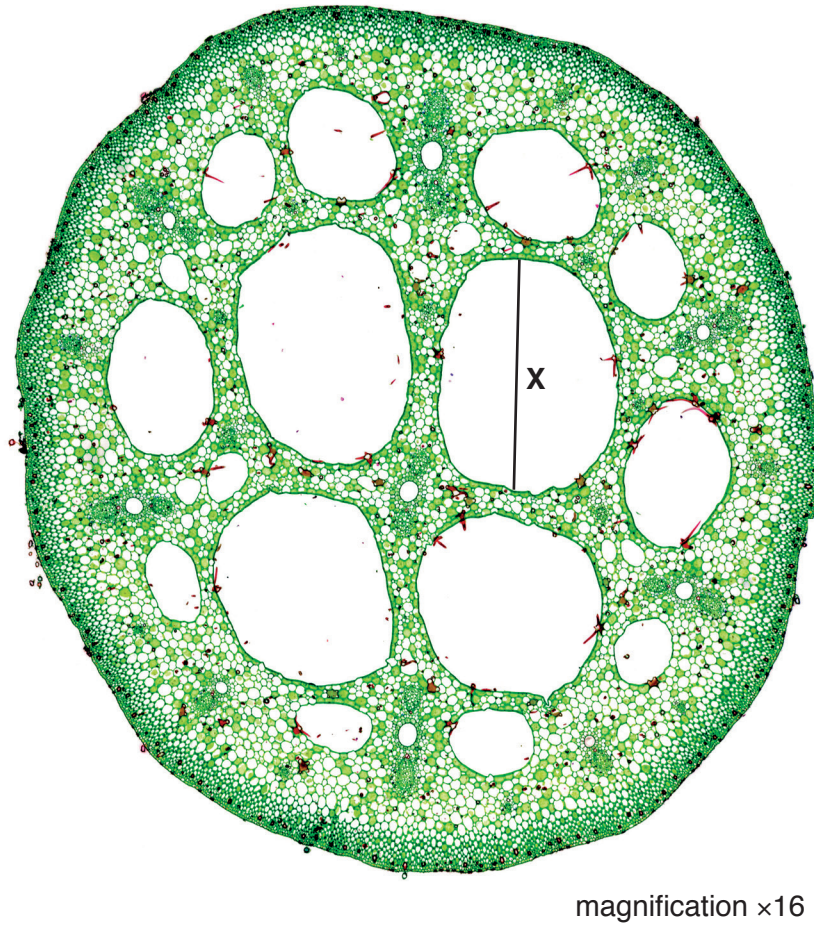

Fig. 2.2
(b) Fig. 2.2 is a photomicrograph of a stained transverse section through a stem of a different type of plant.
(i) In Fig. 2.2 the line **X** is drawn across the length of an air space.
- (ii) Observe the stem on **J1** and the stem in Fig. 2.2 and identify the differences between them.